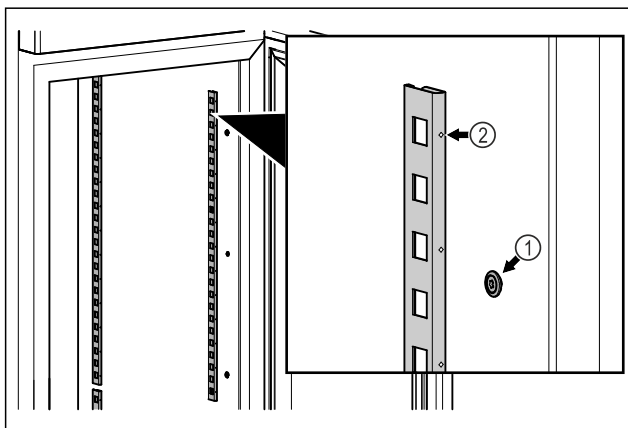

Fig. 79 Example illustration
- Hook the snap strips into the suspension Fig. 79 (1). Mark Fig. 79 (2) must point forwards.